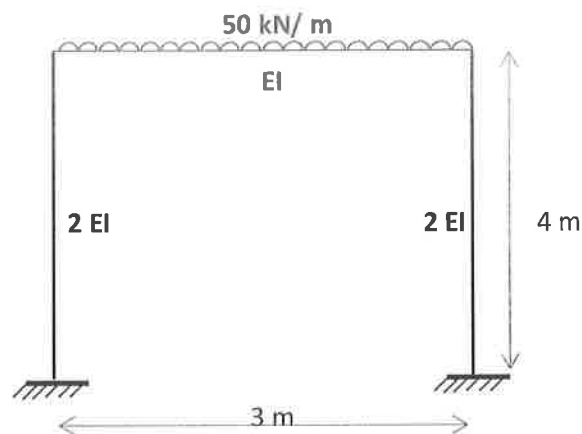

Fig. 5
6. Using stiffness method analyse the plane frame supported and loaded as shown in Fig.5. (8 M)